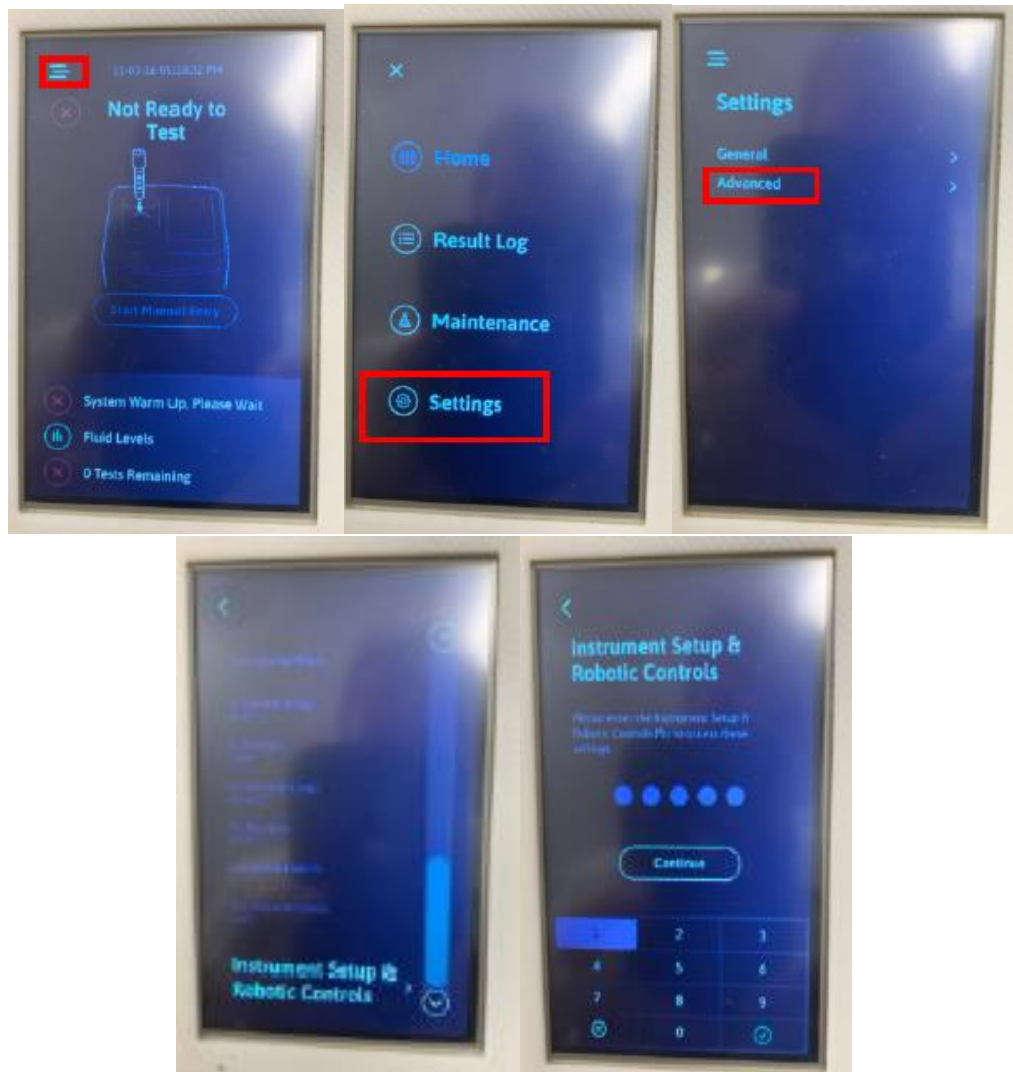

Figure 43
10.2. At the Home screen follow screen shots and enter the code “41281” when prompted for the Instrument Setup and Robotic Controls screen. Select Continue button per last screenshot in Figure 43.